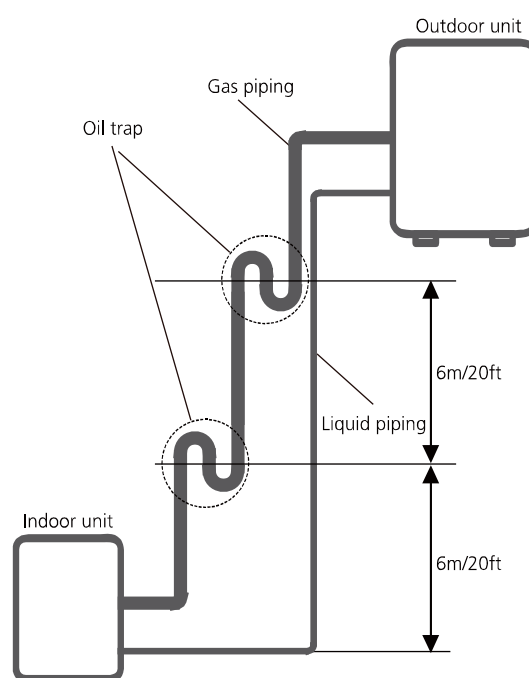

Fig. 7.2
(See Fig. 7.2)
1. Make sure that the pipe is cut at a perfect 90° angle. Refer to Fig. 7.2 for examples of bad cuts.